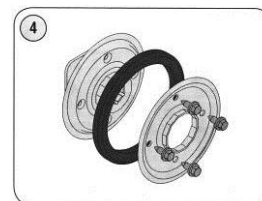

Figure 24
- 1) Remove the four screws which secure the friction wheel's side plates together. See Figure 24.